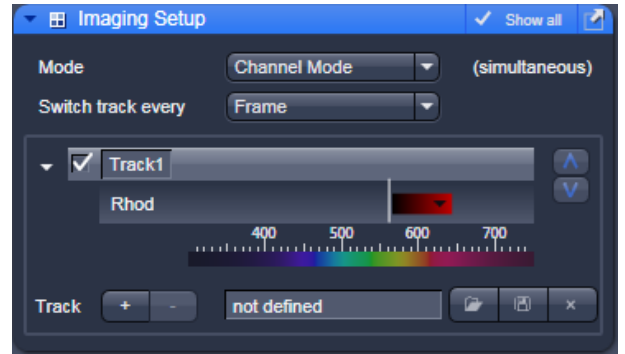

Fig. 5-61 Imaging Setup tool
- The **Imaging Setup** tool now shows the active channel and the detection range for the signal. You may want to save these settings as a specific imaging configuration (Fig. 5-61).